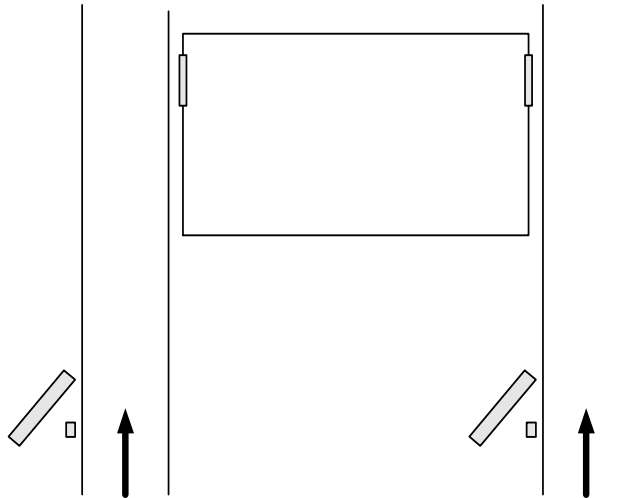

Figure 4
- A *Dual Drive Thru* (see Figure 4) is comprised of two completely separate drive thru systems, each with its own lane, usually on opposite sides of the building, its own order point, and one or two drive thru windows for payment and pick up. The simplest dual drive thru is two single drive thrus, but it is possible to have dual tandem, dual side-by-side, or even a combination of different drive thru types.